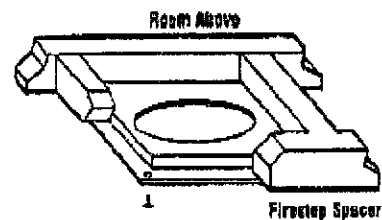

Figure 19
**Step 3.** Position appropriate firestop spacer at ceiling and nail temporarily with two (2) 8d nails. Use flat firestop spacer, Model F8FS-2, if chimney penetrates ceiling vertically. If chimney penetrates ceiling at 90° angle (offset chimney), use 30° firestop spacer, Model F8FS30. Use one nail on opposite sides to hold firestop spacer in position. Nail permanently, using at least two (2) more 8d nails, after chimney sections have been assembled through the firestop spacer and after any necessary adjustments have been made. Firestop spacer must be secured by at least four (4) 8d nails when completely installed.
**Note:** If there is a room above ceiling level, firestop spacer must be installed on the bottom side of the ceiling. If an attic is above ceiling level, firestop spacer must be installed on top side of ceiling joist (Figures 19 and 20).